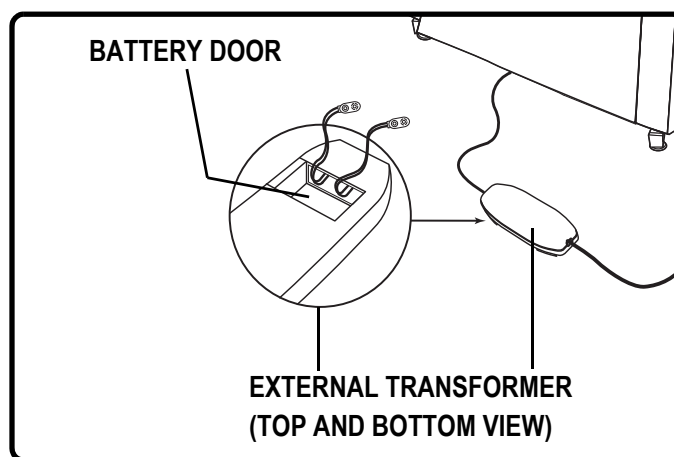

Figure 3.3 Battery Backup Location
3. Install two 9V batteries into the external transformer (**Fig. 3.3**).